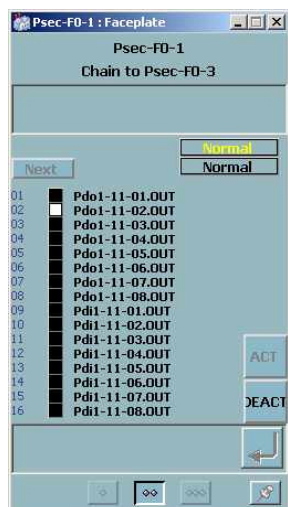

Figure 197. SEC Module
**Security (SEC).** The Security module faceplate identifies the results of a bit wise comparison of 16 desired states versus actual states in an 800xA for DCI controller. The SEC is used for sequential operations where different steps or phases have different expected states for the same operational equipment. The SEC module reports 16 value names, their desired and actual states, the activation state for security, and alarm status that is used for display in the faceplate. Figure 197 shows the layout of the SEC normal sized faceplate and its attributes.